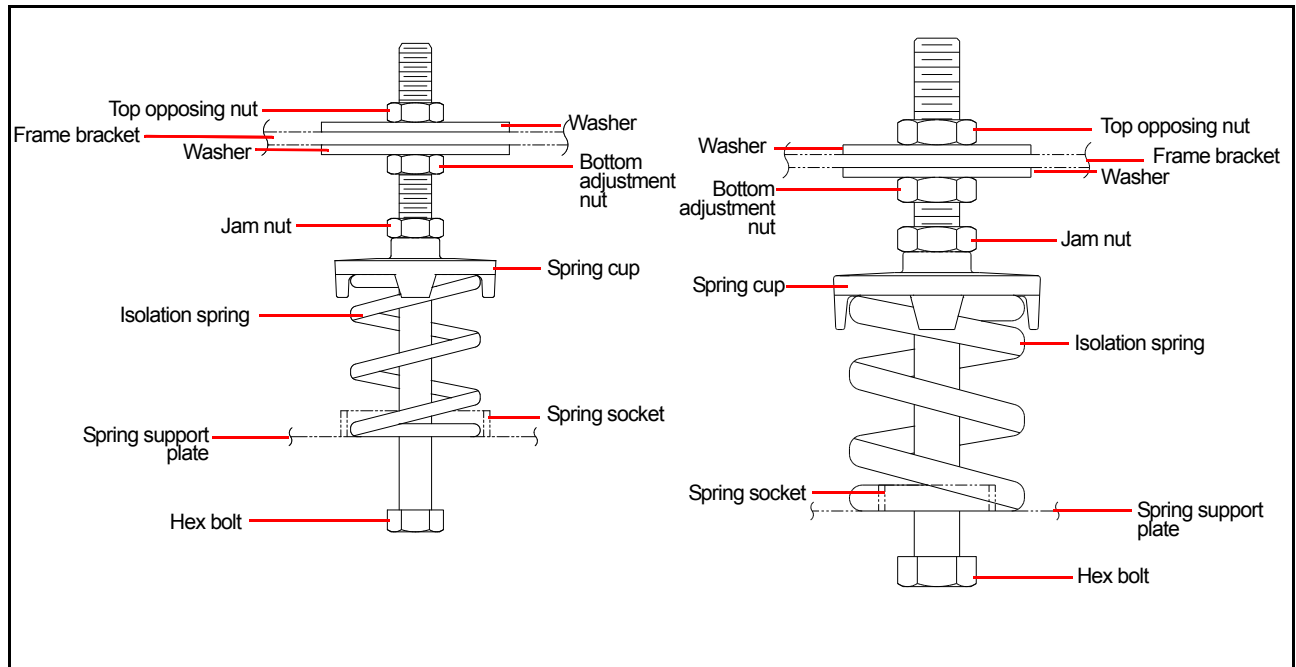

Figure 3-3 Floor Isolation Mounts—ALC (left) and AWC (right)
Isolation mounts are used to isolate the vibration of the shaker from the column or pedestal supports (Figure 3-3). Isolation mounts supplied by Key are designed and built to match the equipment. Refer to the equipment drawings for proper location of isolation mounts.
3. Verify the hex bolts are firmly bottomed out in the threads of the spring cups. The length of threaded rod above the top of the spring cup should be $3 \frac{7}{8}"$ (98 mm) (Figure 3-3).